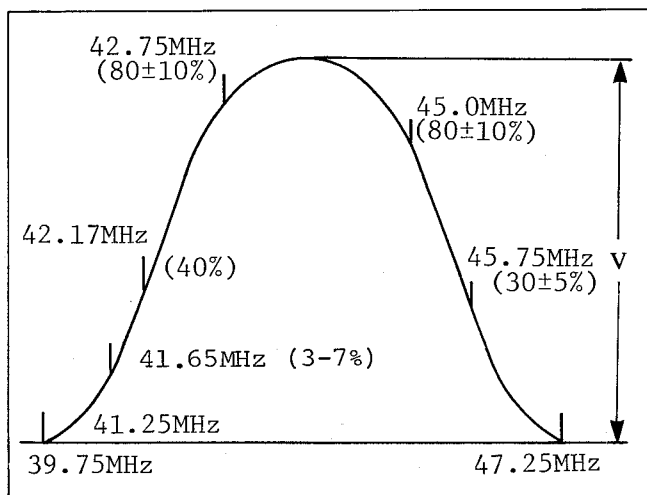

Fig. E14
15. Adjust the IF FILTER (T706) (2) so that the attenuation of the 39.75MHz trap becomes minimum.
16. Adjust the tuner converter trans on the VHF tuner and (3), (4), (5) and (6) trans of T706 so that the sweep output waveform becomes as shown Fig.E14.